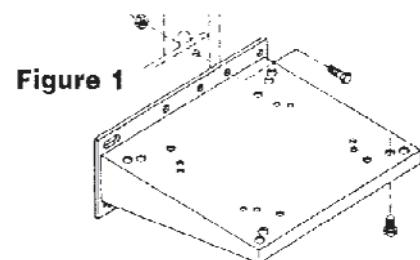

Figure 1
4. Attach pump-mounting bracket using two hex head cap screws and nuts. See Figure 1.